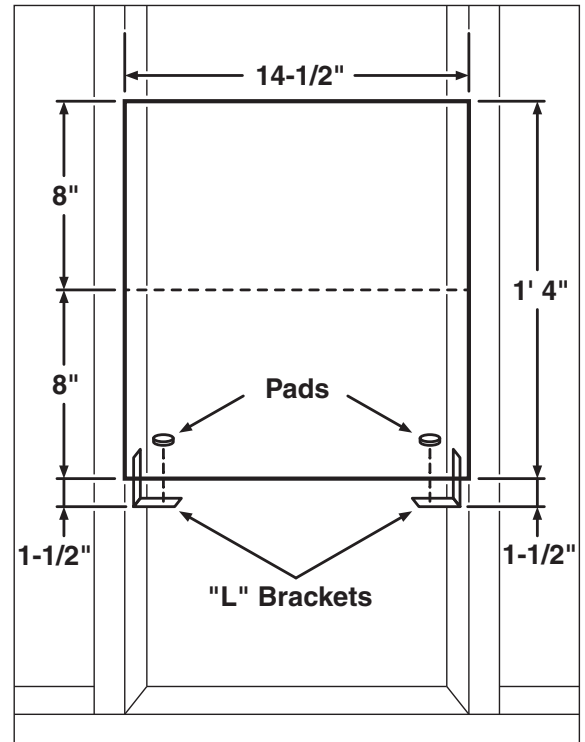

Figure 1
Locate the studs to the left and right of the desired subwoofer placement, using a stud finder or other means. Use a level to mark a plumb line to identify the inside face of each stud (See figure 1). If you are not sure of the location of the stud using this method, use a small diameter drill bit and drill a small hole to determine the composition of the wall.
Measure from the floor to the center of an electrical box and transfer that measurement to the location for the subwoofer. Use a level to extend this center line to the left and right inside stud face. From the center line, measure up 8" and mark a level line. Again, from the center line measure down 8" and mark a level line. (See figure 1) This will create a 14-1/2" (W) x 16" (H) cutout pattern for the in-wall subwoofer. Double-check the accuracy of the hole markings, using the wooden face-frame as a guide before making any cuts. Finally, use a drywall saw and cut along the lines to create the opening for your subwoofer.
Step 1: The installation kit includes "L" brackets to assist during installation of your subwoofer. Before installing the "L" brackets, attach the small round pads. Inside the wall, measure down 1-1/2" from the bottom of the opening and attach an "L" bracket to the face of the left and right studs (see figure 1).